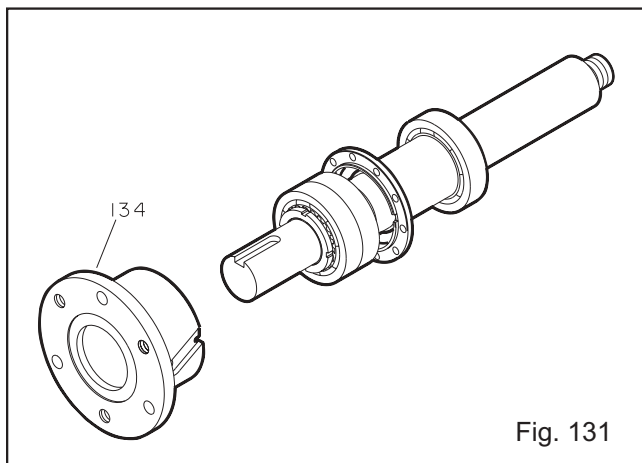

Fig. 131
13. Coat outside of bearing housing (134) with oil.
15. Install shaft assembly into frame (228A). Check shaft for free turning (Fig. 131).